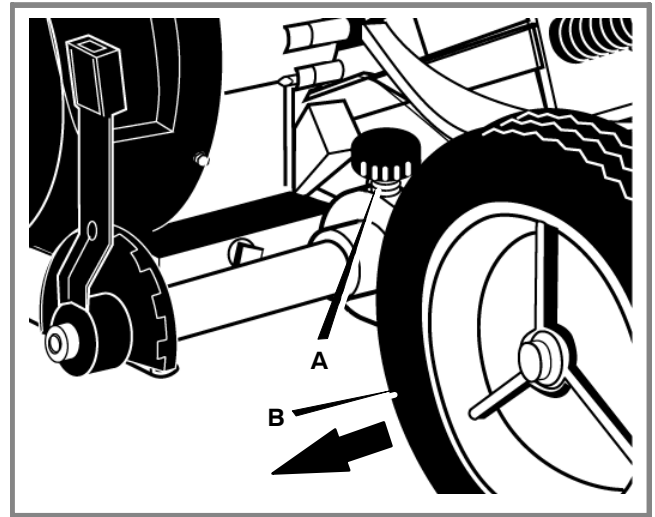

Figure 17: Front Wheel Knob
- 3 Loosen the front wheel knob (A) shown in Figure 17. Slide the front wheel (B) all the way to the right side.